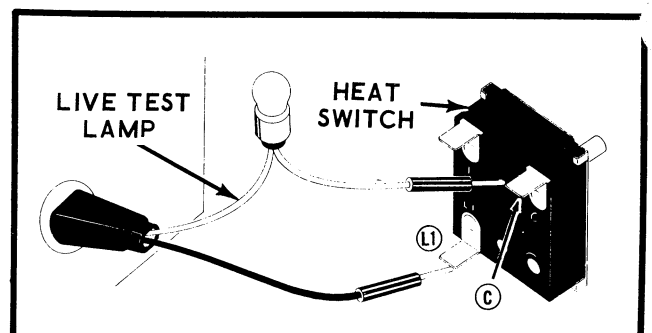

Figure 12H
5. Set switch on HI position. Place probes on L1 and C, Figure 12H. Test lamp should NOT light. Place switch at LOW position. Test lamp should light, or continuity should show on ohmmeter. Turning the switch to OFF should break continuity, or lamp should go out.